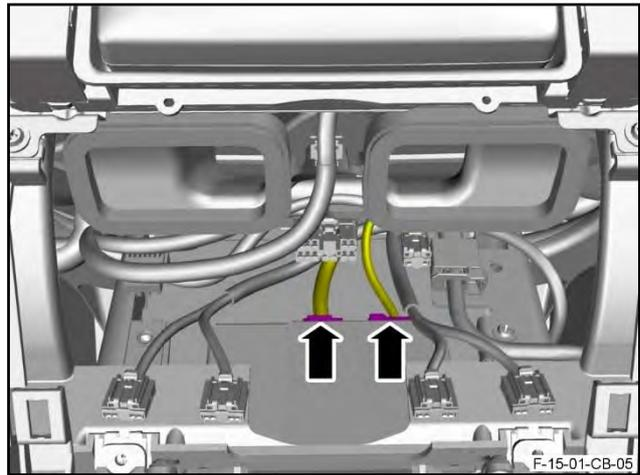

Figure 87
- 121. Connect the two electrical connectors to the ICM (refer to Figure 87).